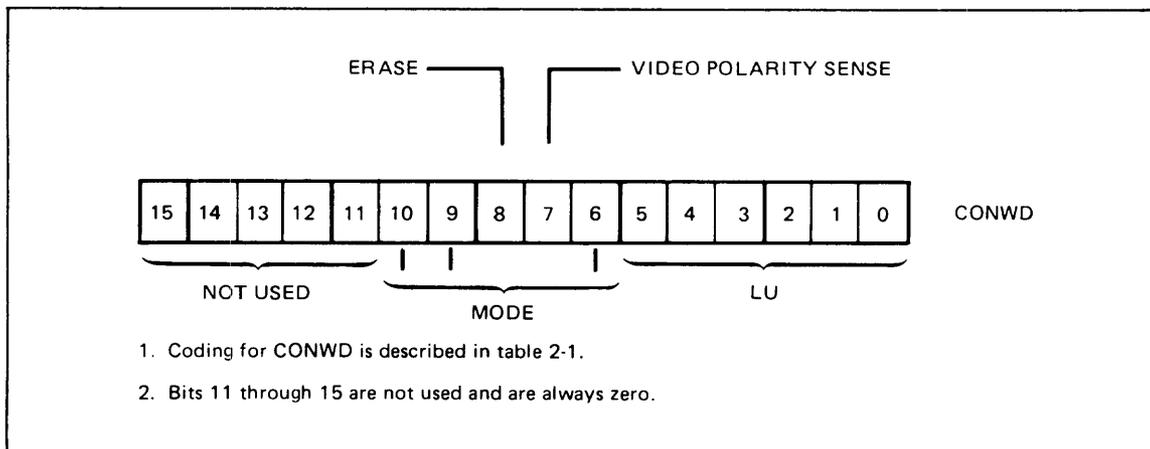

Figure 2-1. CONWD Format
2-6. Direct Memory Access (DMA) or Dual Channel Port Controller (DCPC) is not used for control functions and the DMA/DCPC channel is released. The control word format is illustrated in figure 2-1. Valid control functions recognized by the driver for control word bits 6 through 10 are fully detailed in table 2-1. Control requests with bit 8 set to 0 (mode and sense) are executed by storing the function code in a 2-bit mode control register on the TV interface card. This is achieved by issuing STF and CLC instructions followed by an OTA/B with bit 0 of the mode storage register programmed as shown in table 2-3. No interrupt is expected after these requests, and the driver does an immediate completion return.
| <pre> EXT EXEC . . JSB EXEC DEF *+3 DEF ICODE DEF ICNWD <return point> </pre> | <p>Where:</p> <p>ICODE = Function code. 3 = Control.</p> <p>ICNWD= Control word. See figure 2-1 for format.</p> <p>Bits 0 thru 5 } = Logical unit (LU) number of TV interface card.*</p> <p>Bit 7 Video polarity sense. 0 = normal video polarity (color as specified by Mode bits 6,9,10). 1 = inverse video polarity (complement of color specified by Mode bits, 6,9,10).</p> <p>Complementary pairs of colors are as follows:</p> <table style="width: 100%; border-collapse: collapse;"> <thead> <tr> <th style="text-align: center;">3-Card System</th> <th style="text-align: center;">2-Card System</th> <th style="text-align: center;">1-Card System</th> </tr> <tr> <th style="text-align: center;">Normal Inverse</th> <th style="text-align: center;">Normal Inverse</th> <th style="text-align: center;">Normal Inverse</th> </tr> </thead> <tbody> <tr> <td style="text-align: center;">White - Black</td> <td style="text-align: center;">Yellow - Black</td> <td style="text-align: center;">Black - White</td> </tr> <tr> <td style="text-align: center;">Red - Cyan</td> <td style="text-align: center;">Red - Green</td> <td></td> </tr> <tr> <td style="text-align: center;">Green - Magenta</td> <td></td> <td></td> </tr> <tr> <td style="text-align: center;">Blue - Yellow</td> <td></td> <td></td> </tr> </tbody> </table> <p>Bit 8 = Erase 1 = all other function bits ignored and screen cleared (bulk erase). Resulting screen is black if bit 7 = 0 in previous control request and white if bit 7 = 1.</p> <p>Bits 6, 9, 10 } = Mode (color).</p> <table style="width: 100%; border-collapse: collapse;"> <thead> <tr> <th style="text-align: center;">Bits 10 9 6</th> <th style="text-align: center;">3-Card Color</th> <th style="text-align: center;">3-Card BW</th> <th style="text-align: center;">2-Card Color</th> <th style="text-align: center;">2-Card BW</th> <th style="text-align: center;">1-Card BW</th> </tr> </thead> <tbody> <tr> <td style="text-align: center;">0 0 0</td> <td style="text-align: center;">= White</td> <td style="text-align: center;">7/8 (White)</td> <td style="text-align: center;">Yellow</td> <td style="text-align: center;">3/4 (White)</td> <td style="text-align: center;">White</td> </tr> <tr> <td style="text-align: center;">(0)</td> <td></td> <td></td> <td></td> <td></td> <td></td> </tr> <tr> <td style="text-align: center;">0 0 1</td> <td style="text-align: center;">= Black</td> <td style="text-align: center;">Black</td> <td style="text-align: center;">Black</td> <td style="text-align: center;">Black</td> <td style="text-align: center;">Black</td> </tr> <tr> <td style="text-align: center;">(1)</td> <td></td> <td></td> <td></td> <td></td> <td></td> </tr> <tr> <td style="text-align: center;">0 1 0</td> <td style="text-align: center;">= Red</td> <td style="text-align: center;">1/2</td> <td style="text-align: center;">Red</td> <td style="text-align: center;">1/2</td> <td style="text-align: center;">White</td> </tr> <tr> <td style="text-align: center;">(2)</td> <td></td> <td></td> <td></td> <td></td> <td></td> </tr> <tr> <td style="text-align: center;">0 1 1</td> <td style="text-align: center;">= Green</td> <td style="text-align: center;">1/4</td> <td style="text-align: center;">Green</td> <td style="text-align: center;">1/4</td> <td style="text-align: center;">Black</td> </tr> <tr> <td style="text-align: center;">(3)</td> <td></td> <td></td> <td></td> <td></td> <td></td> </tr> <tr> <td style="text-align: center;">1 0 0</td> <td style="text-align: center;">= Blue</td> <td style="text-align: center;">1/8</td> <td style="text-align: center;">Black</td> <td style="text-align: center;">Black</td> <td style="text-align: center;">Black</td> </tr> <tr> <td style="text-align: center;">(4)</td> <td></td> <td></td> <td></td> <td></td> <td></td> </tr> <tr> <td style="text-align: center;">1 0 1</td> <td style="text-align: center;">= Yellow</td> <td style="text-align: center;">3/4</td> <td style="text-align: center;">Yellow</td> <td style="text-align: center;">3/4 (White)</td> <td style="text-align: center;">White</td> </tr> <tr> <td style="text-align: center;">(5)</td> <td></td> <td></td> <td></td> <td></td> <td></td> </tr> <tr> <td style="text-align: center;">1 1 0</td> <td style="text-align: center;">= Magenta</td> <td style="text-align: center;">5/8</td> <td style="text-align: center;">Red</td> <td style="text-align: center;">1/2</td> <td style="text-align: center;">White</td> </tr> <tr> <td style="text-align: center;">(6)</td> <td></td> <td></td> <td></td> <td></td> <td></td> </tr> <tr> <td style="text-align: center;">1 1 1</td> <td style="text-align: center;">= Cyan</td> <td style="text-align: center;">3/8</td> <td style="text-align: center;">Green</td> <td style="text-align: center;">1/4</td> <td style="text-align: center;">Black</td> </tr> <tr> <td style="text-align: center;">(7)</td> <td></td> <td></td> <td></td> <td></td> <td></td> </tr> </tbody> </table> <p>*If the designated LU is for a non-zero subchannel, white is produced for all values of Mode except 001 (1) black.</p> | 3-Card System | 2-Card System | 1-Card System | Normal Inverse | Normal Inverse | Normal Inverse | White - Black | Yellow - Black | Black - White | Red - Cyan | Red - Green | | Green - Magenta | | | Blue - Yellow | | | Bits 10 9 6 | 3-Card Color | 3-Card BW | 2-Card Color | 2-Card BW | 1-Card BW | 0 0 0 | = White | 7/8 (White) | Yellow | 3/4 (White) | White | (0) | | | | | | 0 0 1 | = Black | Black | Black | Black | Black | (1) | | | | | | 0 1 0 | = Red | 1/2 | Red | 1/2 | White | (2) | | | | | | 0 1 1 | = Green | 1/4 | Green | 1/4 | Black | (3) | | | | | | 1 0 0 | = Blue | 1/8 | Black | Black | Black | (4) | | | | | | 1 0 1 | = Yellow | 3/4 | Yellow | 3/4 (White) | White | (5) | | | | | | 1 1 0 | = Magenta | 5/8 | Red | 1/2 | White | (6) | | | | | | 1 1 1 | = Cyan | 3/8 | Green | 1/4 | Black | (7) | | | | | |